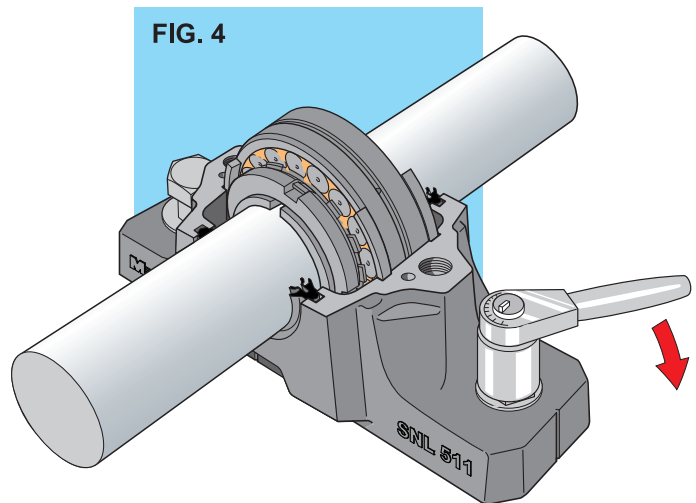

FIG. 4
10. Do proper alignment of both housing bases and then tighten the foundation bolts lightly. FIG 4
13. Do proper alignment of both housing bases and then lightly tighten the foundation bolts on housings at both ends. FIG 4
9. Bearing is then mounted on the shaft at proper location. Fill complete bearing with grease of appropriate grade and quantity. Put recommended quantity of grease in the housing base at the sides, refer Table I . FIG 4
12. Make proper alignment of both housing bases and then tighten the foundation bolts lightly. FIG 4